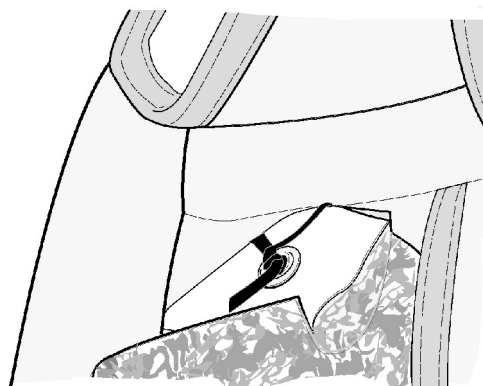

Figure 1. Canopy Ties
b. Carefully verify initiator cuts are present, (3) on top edge, (1) on bottom, "V" cut by looking on opposite side of red tape. Verify initiator cuts are present in the heat seal seam. (QA)
c. Carefully lift and slide sealed canopy assembly to expose canopy ties (Figure 1).